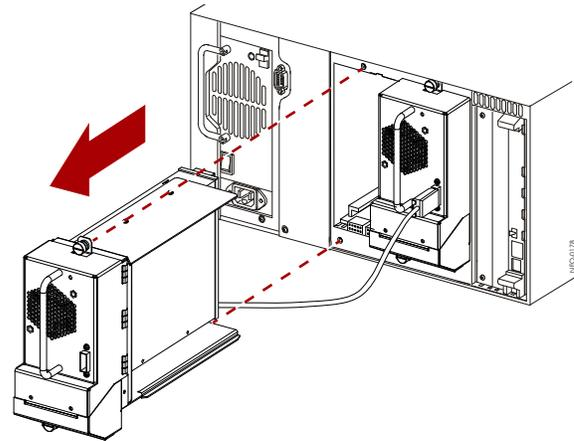

Figure 4. Removing a Drive (NEO 2000E)
5. Using the handle and fully supporting the assembly, pull the **drive assembly** to remove it (Figure 4).